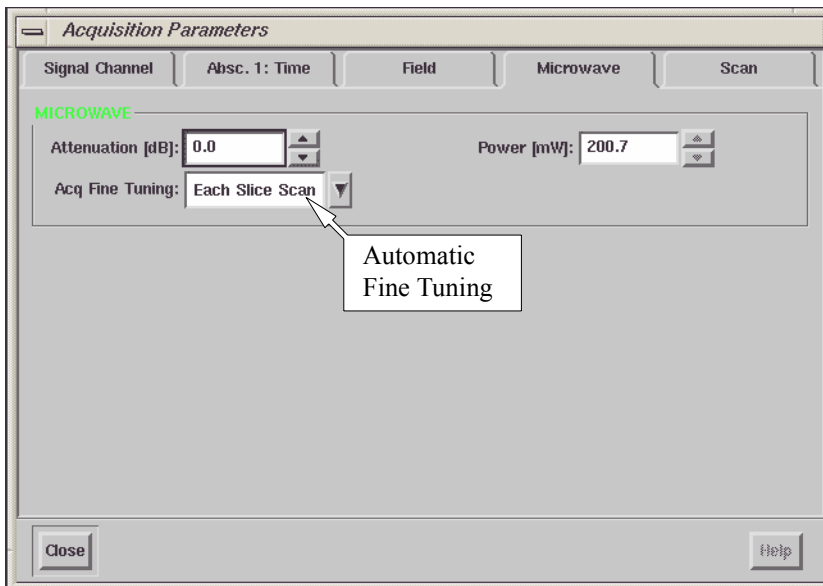

Figure 3-10 Setting the microwave power for the noise measurement.
3. **Set the Microwave Power.** Click the Microwave tab. Set the Attenuation to 0 dB. We also advise you to select the Before Each Slice Scan option in the Acq. Fine Tuning box to ensure the acquisition is made under proper coupling conditions. It will automatically fine tune the coupling each time a scan starts. (See Figure 3-10.)